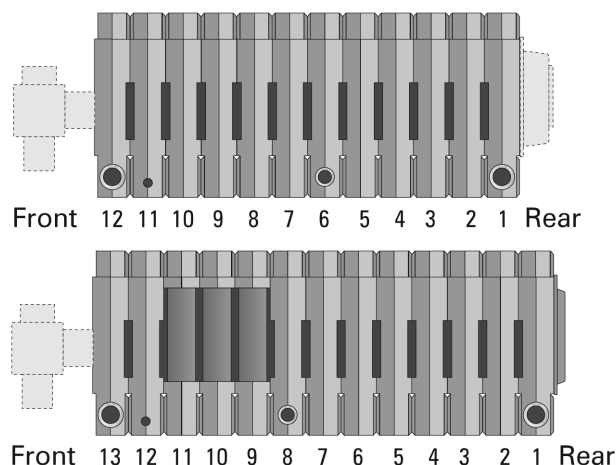

Figure 2.8: Section Positioning Numbering
- Three (3) Top Flue Outlet Intermediates
- The remaining intermediate sections are 3" Tapped Intermediates or Plain Intermediates as shown in Figure 2.8 and Figure 2.9.